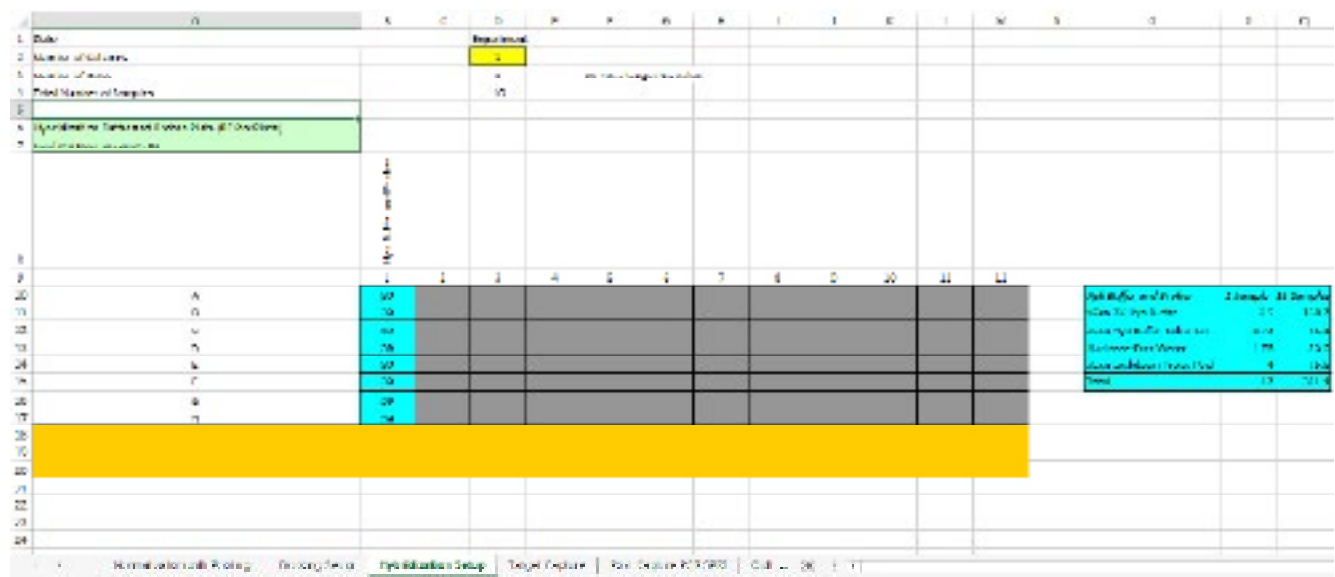

Figure 4. Workbook for the Hybridization Setup
**Tip:** Update the table shown in Figure 4 to allow the Maestro™ software to obtain the values directly from this workbook.
- 4. Prepare the Hybridization Master Mix based on the calculated volumes from the workbook (Figure 4).